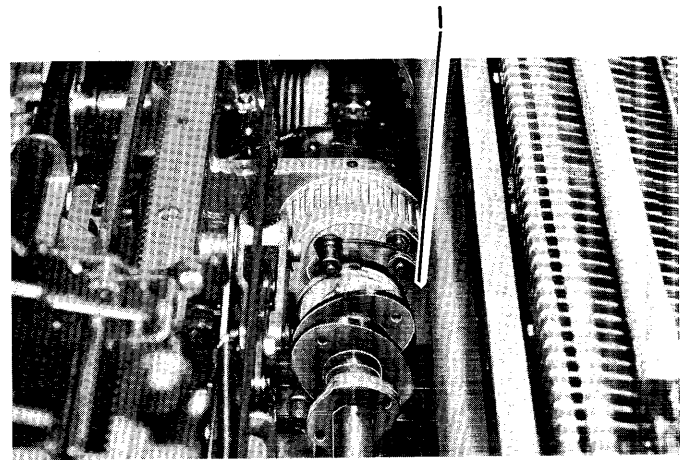
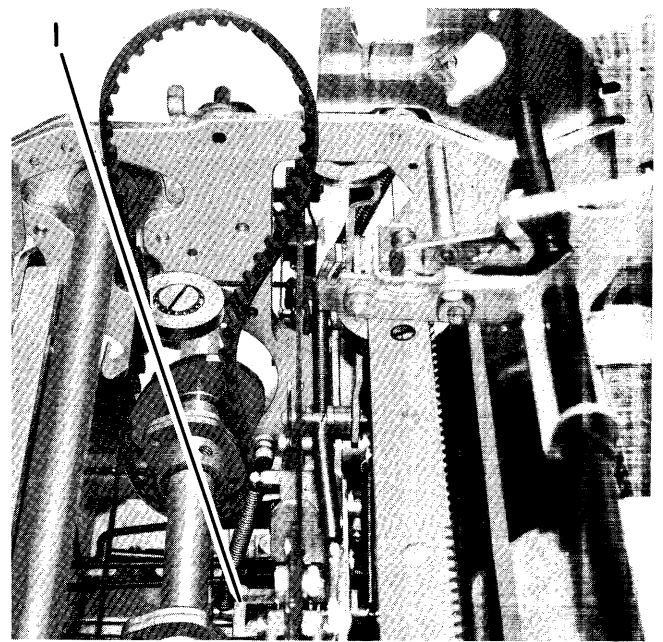

Figure 10. Belt Replacement
Figure 11. Belt Replacement
13. Loosen the two cycle-clutch latch-bracket mounting screws (#1, Figure 10). Slip the new belt through the bearing plate hole, around the shaft, and over across the cycle shaft to the cycle-clutch latch (Figure 11). Work it between the latch and the cycle-clutch sleeve.